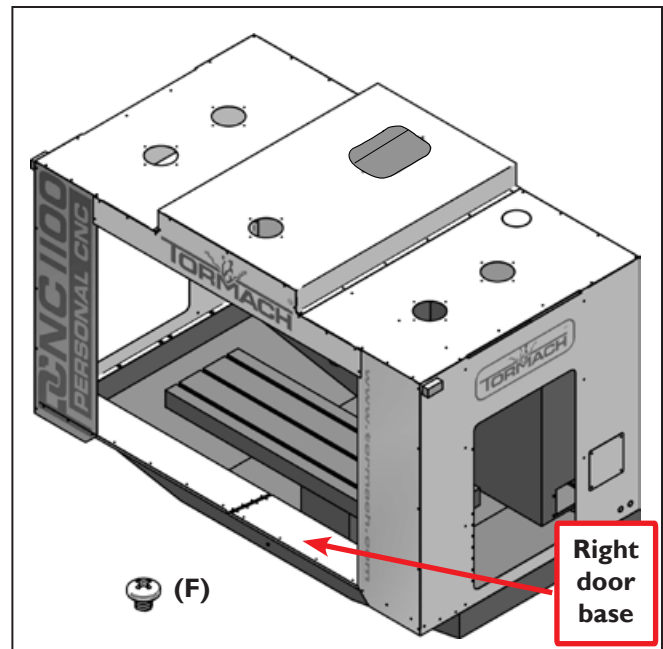

Figure 18
47. Place the Right Door Base (E.20) to where the large flange is inside of the chip pan (see **Figure 18**). Loosely fasten with (F) screws along the front left and left side panels. On the inside flange there is a series of 1/4" holes. These holes are provided so you can drill and tap the chip pan using a .201" diameter drill bit and a 1/4-20 tap.
48. Once the holes are drilled and tapped, fasten with (C) screws.